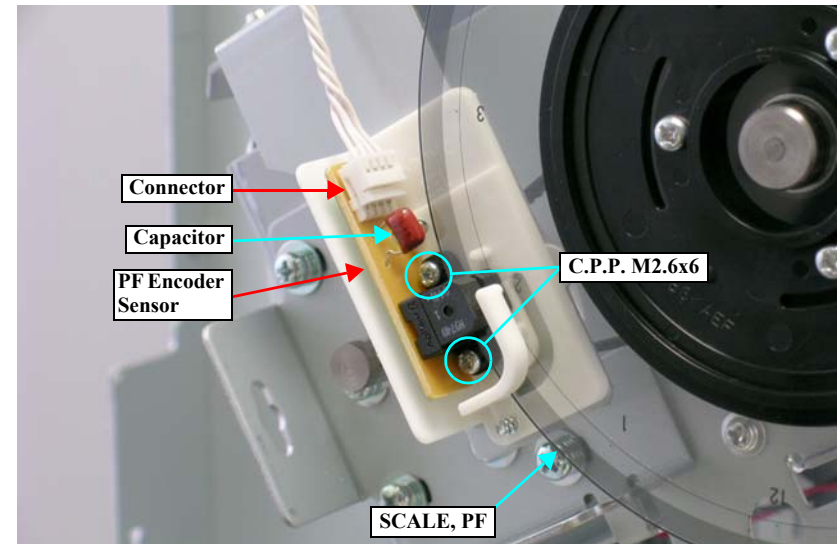

Figure 4-89. Removing the PF Encoder Sensor
CAUTION  When removing the SCALE, PF, be careful not to deform or damage it. *See Figure 4-89.*
CAUTION  When removing the PF Encoder Sensor, be careful not to bend the capacitor on the sensor. *See Figure 4-89.*
4. Remove the connector from the PF Encoder Sensor. *See Figure 4-89.*
5. Remove the two screws that secure the PF Encoder Sensor and remove it. *See Figure 4-89.*